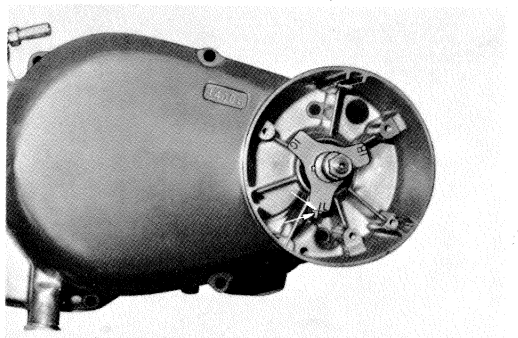

Fig. 6-11-3
- 2) Align the dented mark (red line) of the L mark on the ignition timing plate attached to the cam shaft with the alignment mark on the crank case right cover (see Fig. 6-11-3).